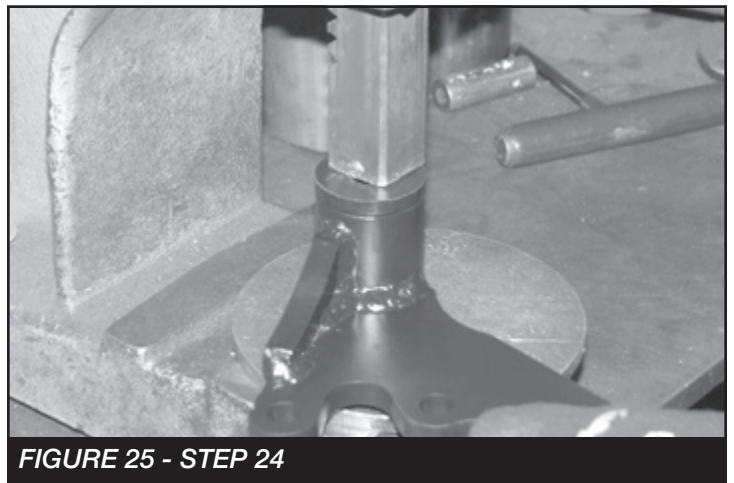

FIGURE 25 - STEP 24
24. Locate the center differential bracket (FT30567). Install two of the Fabtech (FT1020) bushings and one sleeve (FT181) into the barrel on the differential bracket. **SEE FIGURE 25**